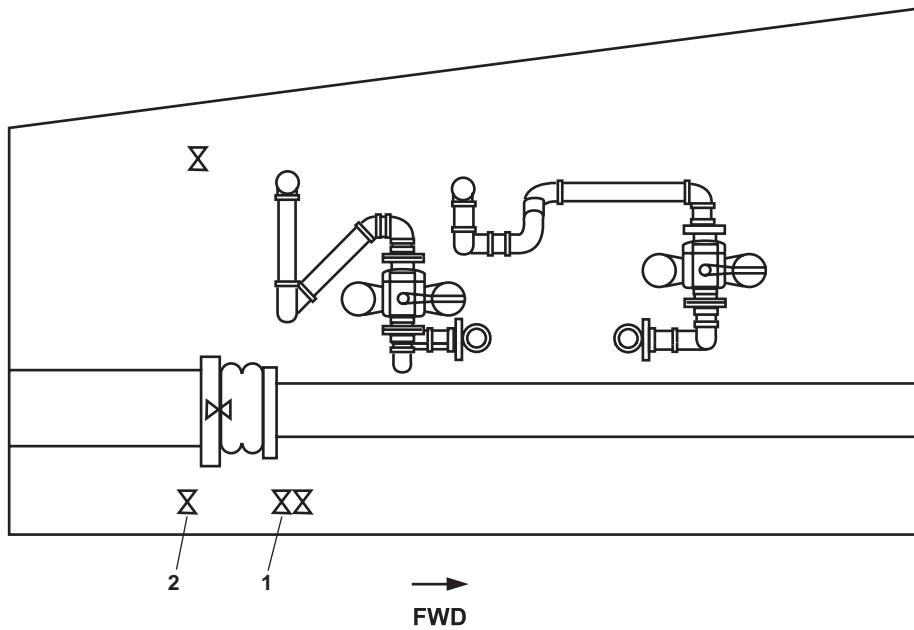

Figure 9. Port Shaft Alley
- (18) GS-42, COV-ST TUBE SEAL P (figure 9, item 2), port stern tube seal, located on the bottom of the shaft in port shaft alley.